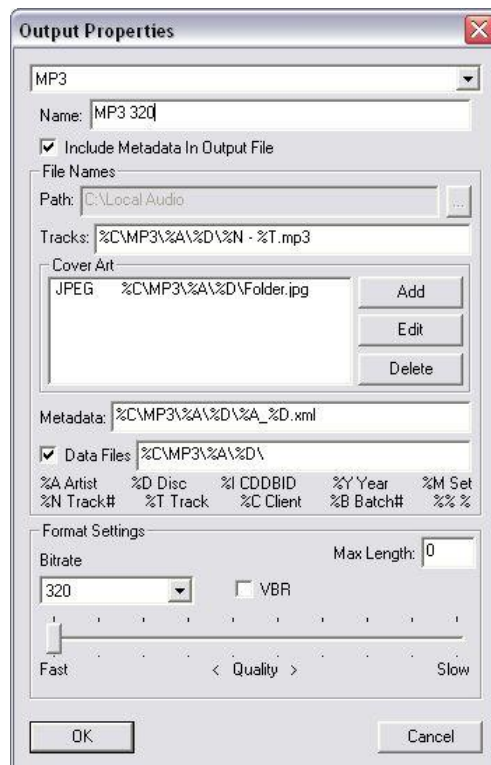

Figure 3.17- MP3 CODEC Settings
- To modify a CODEC's settings, select the codec you wish to modify and click the **[Edit]** button. For the MP3 CODEC, the box in figure 3.17 appears.